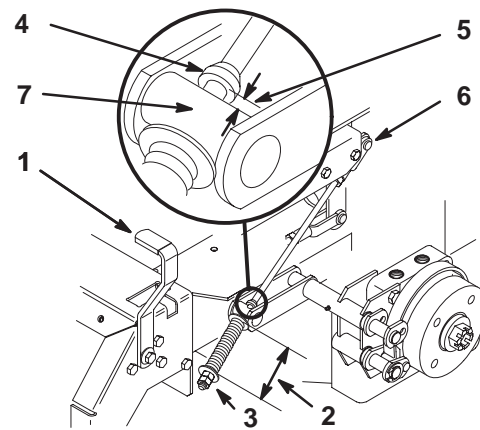

Figure 60
2. Measure the length of the spring. The measurement should be 2-3/4 inch (74 mm) between the washers (Fig. 60).
3. If an adjustment is necessary, loosen the jam nut below the spring and tighten the nut directly below the yoke (Fig. 60). Turn the nut until the correct measurement is obtained. Tighten the two nuts together and repeat on the opposite side of the unit.
6. Measure the distance between the trunnion roller and the collar on the brake rod. The measurement should be 3/16-1/4 inch (5-7 mm) (Fig. 60).
7. If an adjustment is necessary, loosen the jam nut directly below the yoke. Turn the bottom adjusting nuts until the correct measurement is obtained (Fig. 60). Tighten the jam nut at the yoke.